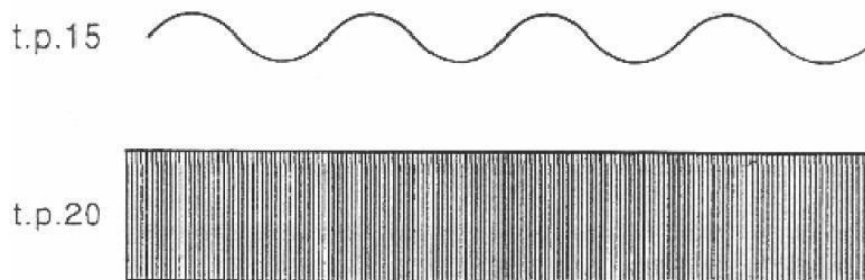

Figure 5: Input Audio Signal and SSB output Signal
8. Monitor the output of the ceramic band pass filter block (at t.p. 20) together with the audio modulating signal (at t.p.15) using the later signal to trigger the oscilloscope. Note that the envelope of the signal at t.p.20 now has fairly constant amplitude, as shown in Fig.5.